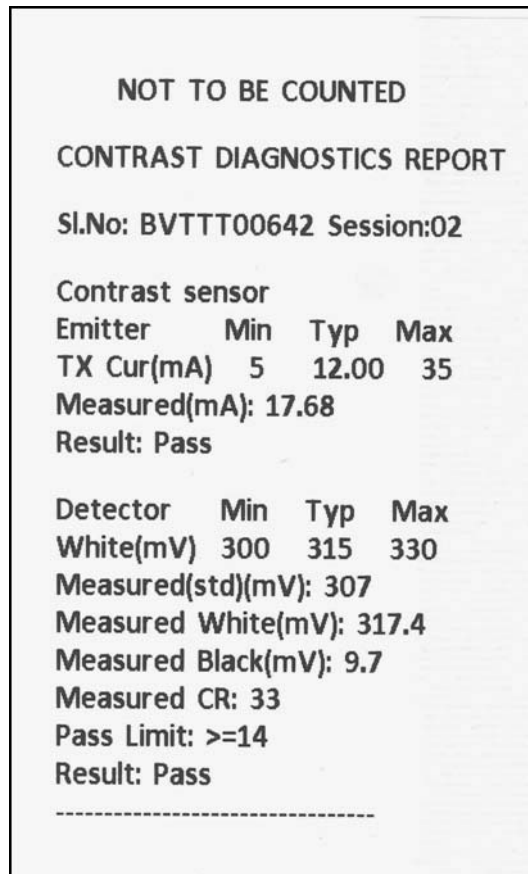

Figure 7.4 - Contrast Diagnostics Report
- (a) A sample photo of Diagnostics reports are shown in Figure 7.4 to 7.8.